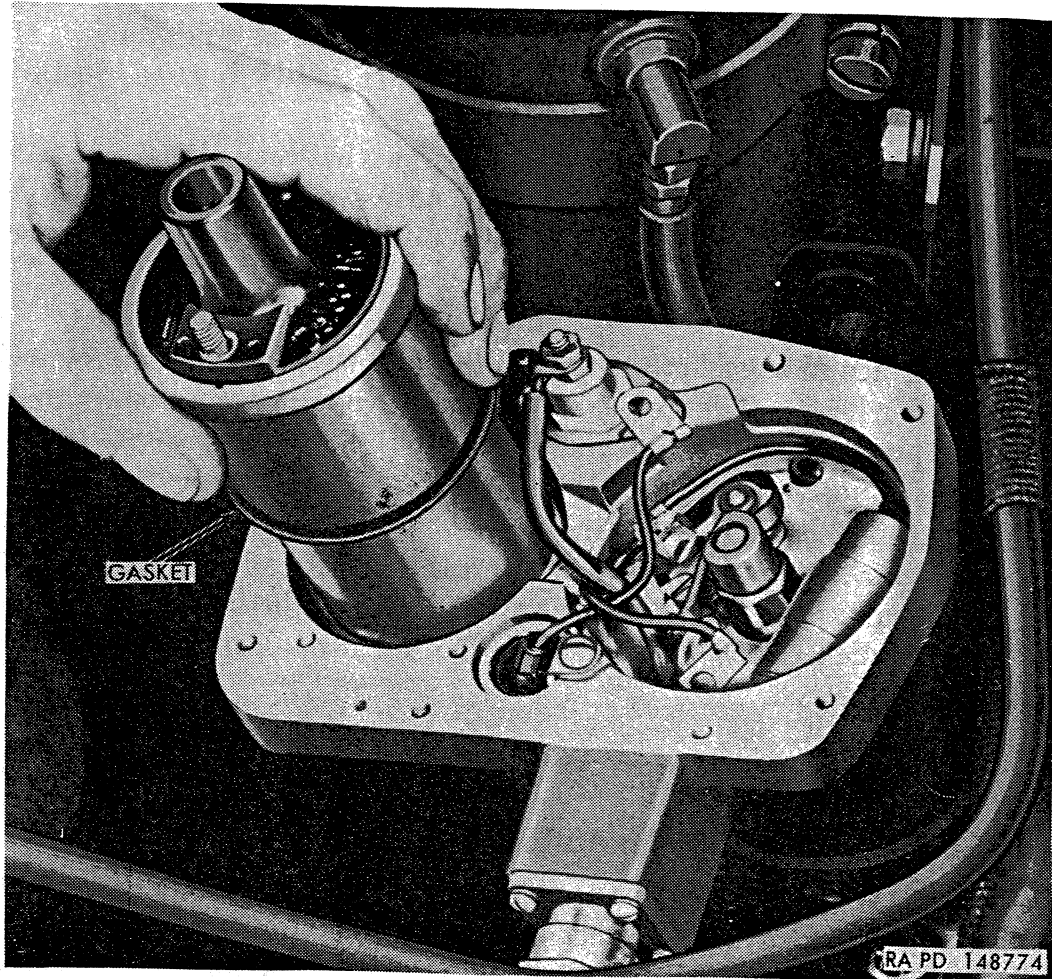

Figure 121. *Removing or installing ignition coil.*
f. *Ignition Coil Replacement* (fig. 121).
- (1) *Removal.* Remove distributor cover and gasket. Disconnect cables from coil terminals. Remove four screws attaching coil retaining plate to distributor housing, and remove plate. Lift ignition coil out of housing and remove gasket. Discard gasket.